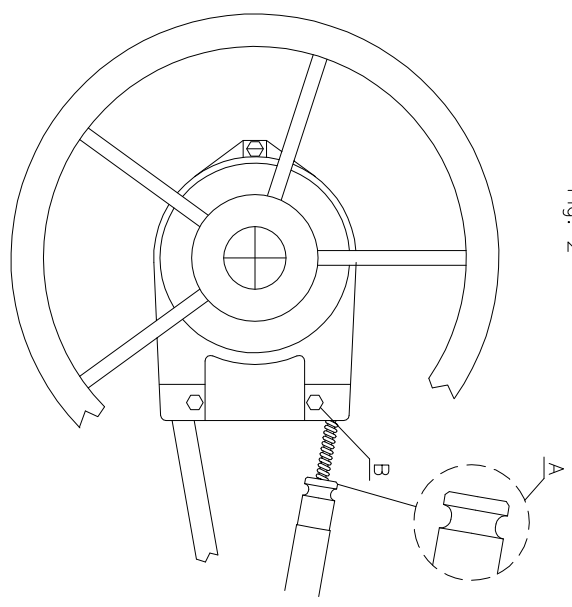

Fig. 2
6. CABLE CONNECTION TO THE HELM (FIG.2)